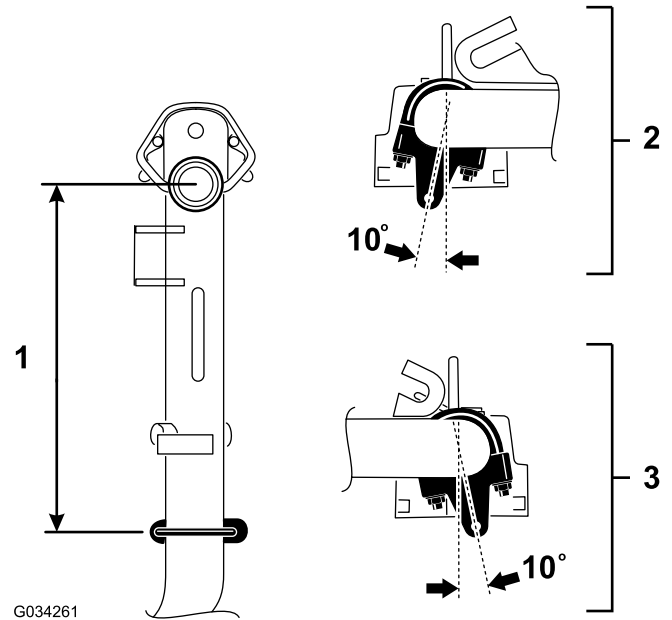

Figure 7
1. On lift arms 1, 4, and 5, position the chain brackets and U-bolts 38 cm (15 inches) behind the center line of the pivot knuckle (Figure 7).
Note: On lift arms 1 and 5, the brackets should be rotated to the right 10° from vertical (Figure 7).
Note: On lift arm 4, the bracket should be rotated to the left 10° from vertical (Figure 7).